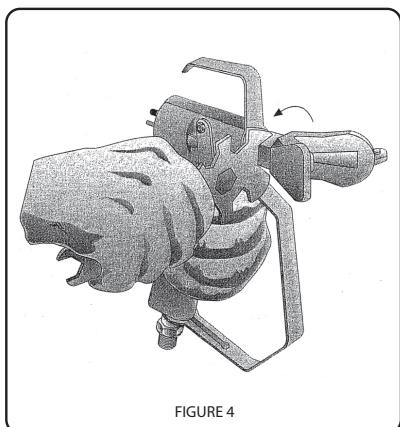

FIGURE 4
- 3 Remove the cap guard and the spray tip (figure 4). Leave these in a container filled with solvent.